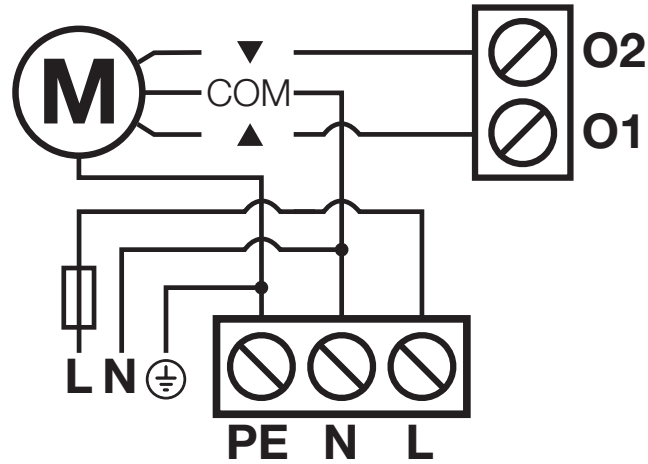

Figure 8: Electrical connections
6. Connect the wires to the terminals according to Figure 8 and chapters 4.1, 4.2 and 4.3.